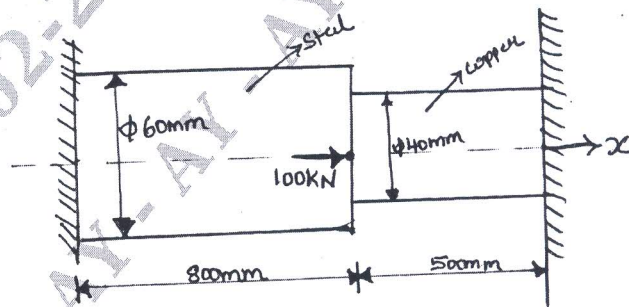

Fig.Q10
- 10 For the axially loaded bar shown in Fig.Q10. Determine :